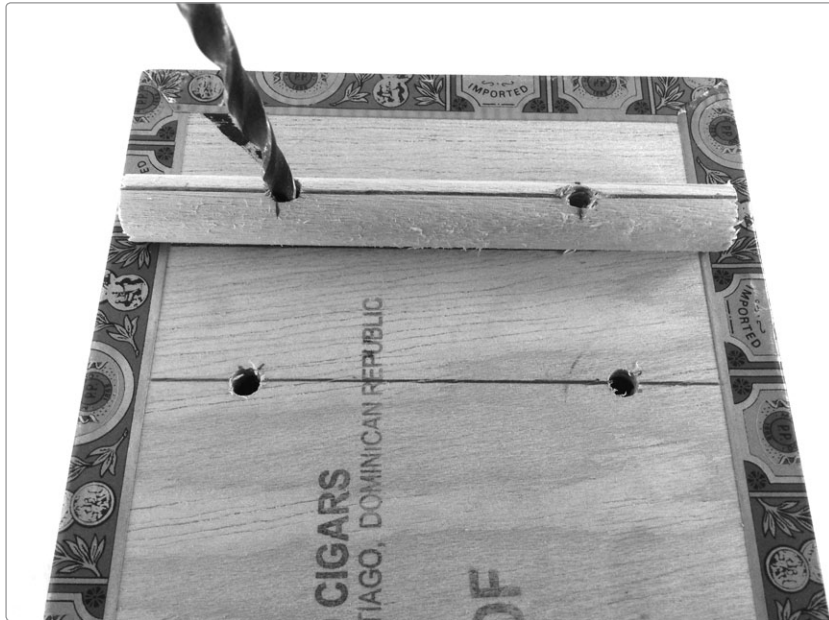

FIGURE 11-8: Using the bridge as a guide for drilling the bridge anchor holes
Step 5 Add the saddle-block holes. Using a 3/16-inch bit, drill holes at the two *X*s you marked on the saddle line. Then, center the bridge you prepared on top of the bridge line and use it as a guide to drill two more 3/16-inch holes (see Figure 11-8). If using the bridge as a guide in this fashion is too tricky—as it might be for those with small hands or heavy drills—you can use it as a guide to mark the placement of the holes and then remove the dowel and drill the holes on your marks.